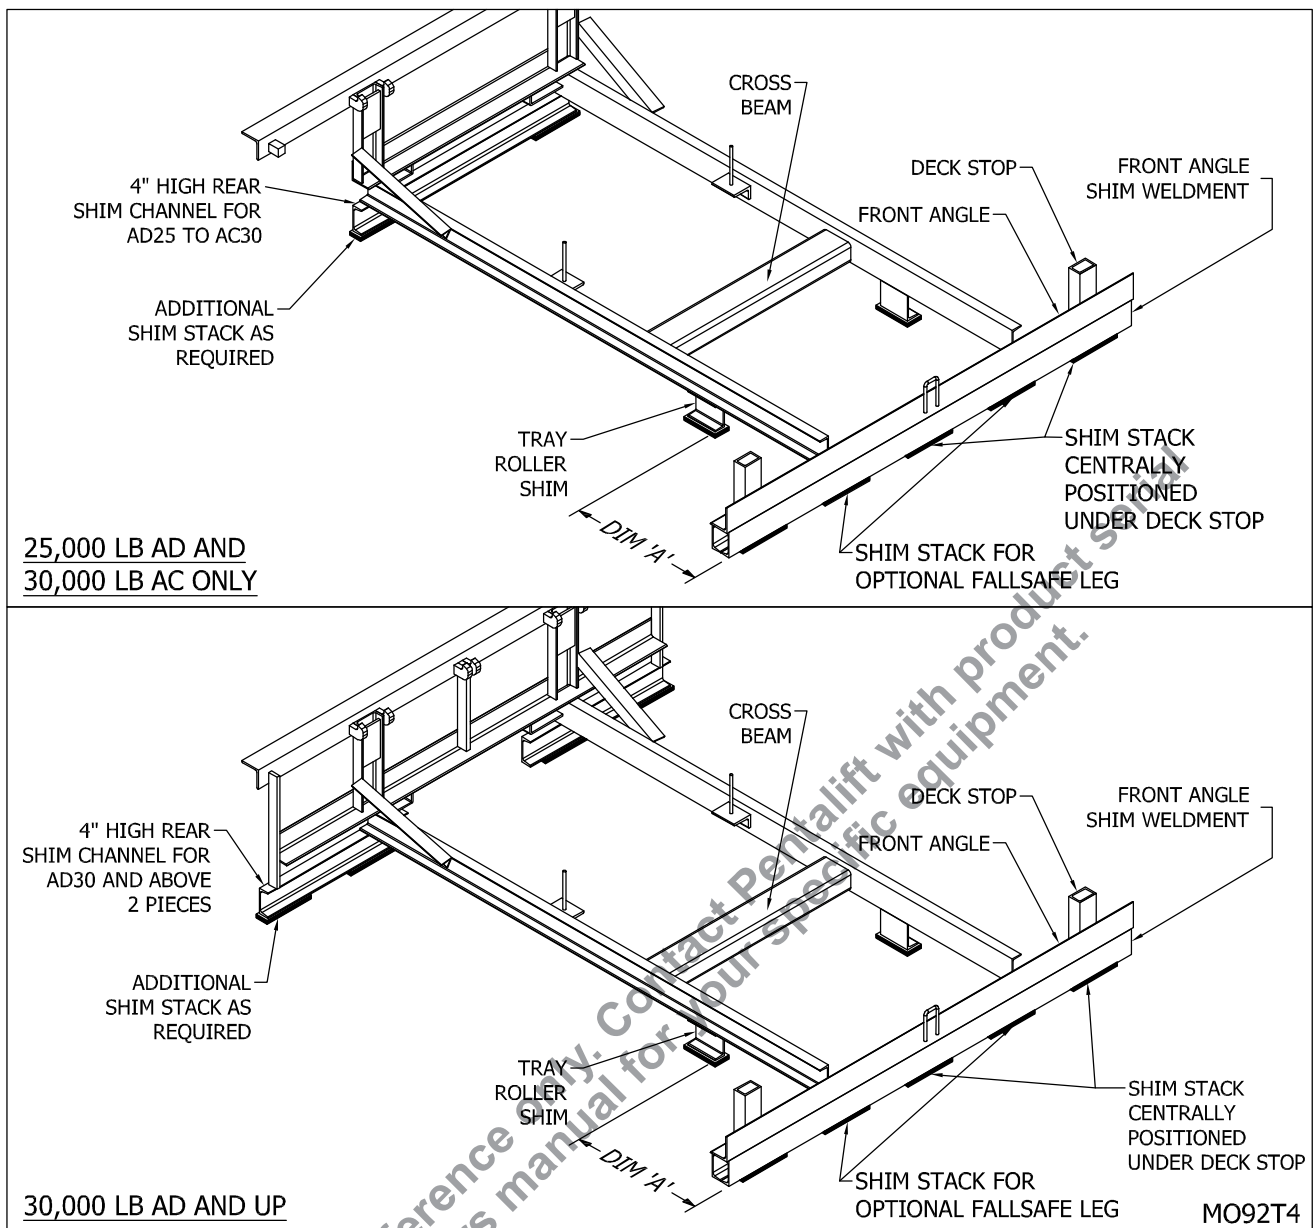
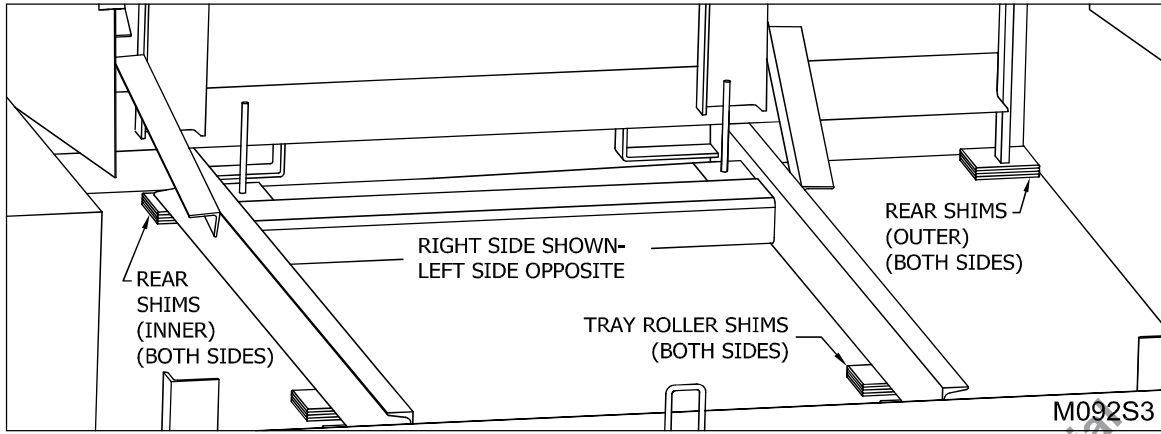

Figure 24: Installation Shims (4" Shim Kit Channel Shim Shown)
Figure 24a: Rear & Roller Shims (4" Shim Kit Shown)
2. Place the front-angle shim assembly into the pit at the front edge, centered across the dock leveler and pit width. When the front-angle shim is constructed of C-channel (3" & 4" shim kits) ensure the short pieces (12" long) on each end are installed toward the inside of the pit. See "Figure 24: Installation Shims (4" Shim Kit Channel Shim Shown)" on page 21.
8. ☐ Lower the dock leveler until the front angle of the dock leveler rests on the front-angle shim. Ensure the front-angle shim assembly is flush with the front angle of the dock leveler frame. "Figure 24: Installation Shims (4" Shim Kit Channel Shim Shown)" on page 21.
14. ___ Add shims (3" x 4" x required thickness) to increase the front height of the dock until the deck plate is flush with the dock height (or at desired final level). Ensure shims are located beneath the front-angle shim at the location of the two deck stops as well as at the center of the front angle. (See "Figure 24: Installation Shims (4" Shim Kit Channel Shim Shown)" on page 21) All shims are to be minimum ASTM A-36 or CSA G40.21 material.
20. ___ Place additional shimstack under the frame beam to support air bag roller tray (see "Figure 24: Installation Shims (4" Shim Kit Channel Shim Shown)" on page 21).
Shimming is required underneath the frame beam, and positioned under the air bag tray's rollers. The location of the tray roller shim is represented as DIM 'A' as shown in "Figure 24: Installation Shims (4" Shim Kit Channel Shim Shown)" on page 21 and "Figure 24a: Rear & Roller Shims (4" Shim Kit Shown)" on page 22. This dimension is measured from the front edge of the front angle to the front edge of the shim. For 8 ft. long models DIM 'A' is to be 26 7/8" and for 6 ft. long models DIM 'A' is to be 3 3/16".